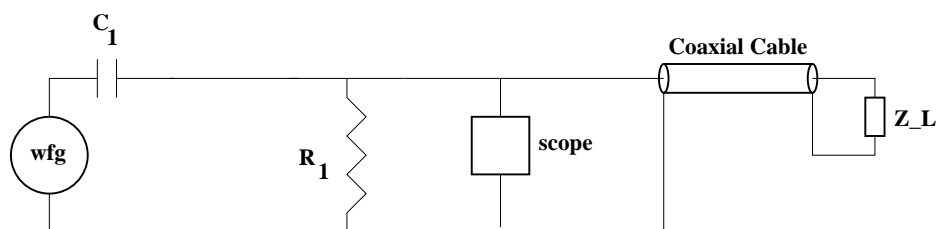

Figure 4: Circuit used to study propagation of waves along a coaxial cable.
6. Attach the the 50 meter long cable to the wfg output/scope input and set $Z_L = \infty$. See figure 4. Observe and sketch the scope trace. You should be able to identify the various sharp spikes that you see. Measure the wave speed v in the cable. How does your measured value for v_{exp} compare with the theoretical value v_{th} given by 10? Also measure the attenuation constant α .